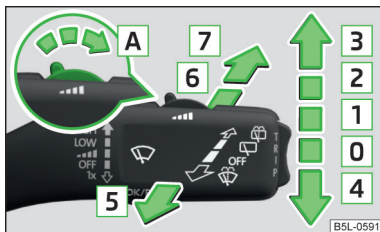

Fig. 36
Operating lever positions » Fig. 36.
Letting go of the operating lever will cause the windscreen wash system to stop and the wiper to continue for another 2-3 wiper strokes (depending on the spray-ing duration). The operating lever remains in position **6** » Fig. 36.
If the lever is in position **2** or **3** » Fig. 36, the rear window is wiped every 30 or 10 seconds if the vehicle's speed exceeds 5 km/h.
- Push the operating level into the position **[6]** » Fig. 36 on page 57 five times in succession within 5 seconds.
After the ignition is switched on, the headlights are always cleaned at the first and after every tenth spray of the windscreen (setting **[5]** » Fig. 36 on page 57), when the low beam or main beam is switched on.